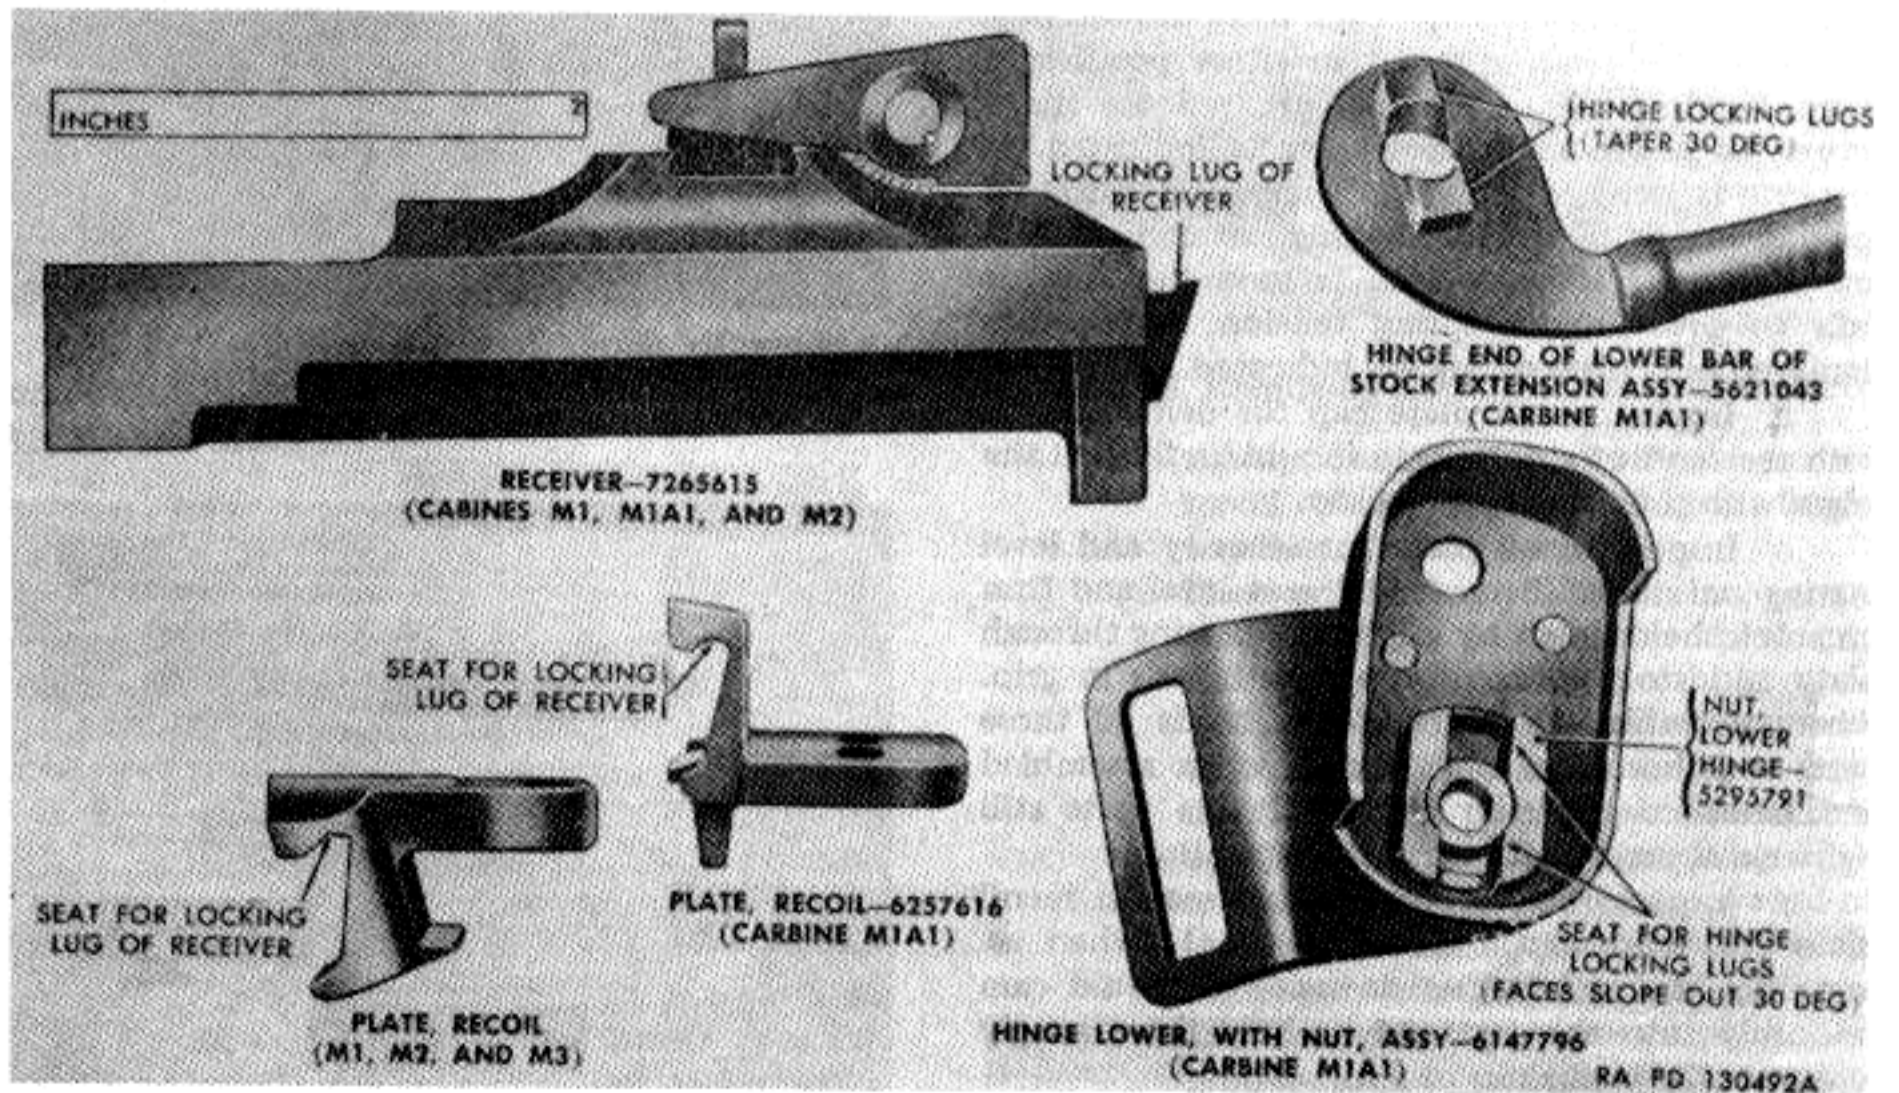

Figure 104. Important wearing surfaces.
*e. Recoil Plate.* Check to assure that recoil plate is free from burrs, excessive wear (Fig. 104) and rust, and that it is properly bedded in stock. Where recoil plate is bedded so deeply in stock that it interferes with proper alignment of action, the stock must be rejected. The recoil plate screw escutcheon should not turn in the stock, have burrs, or worn threads. The screw should be tightened firmly.
f. Inspect receiver locking lug seat in recoil plate for wear and burrs (Fig. 104). When assembling, the locking lug on receiver should cam smoothly into the seat and be held there snugly without play or shake.
i. Inspect locking nut for looseness in lower hinge shell. Inspect shell for deformation. Inspect sling eyelet for looseness on hinge shell (Fig. 104). (Nut is staked or spot-welded in shell and eyelet spot-welded to shell.) Check locking slot in nut for wear and burrs (angle of slot face is 30 degrees). Inspect lower hinge screw for wear and inspect threads in grip for stripping.
*j.* Inspect hinge on upper bar for deformation and cracked welding and lock on corresponding end of lower bar for deformation, cracked welding, and worn locking lug (Fig. 104). The proper mating of lock and nut determine the rigidity of the stock extension when extended or folded. Angle of lock faces should correspond to that of the nut. Wear of lock or nut will cause looseness and improper locking.